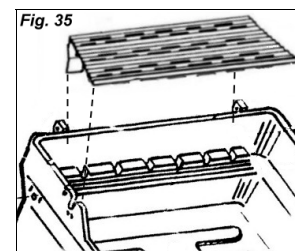

Fig. 35
3. The SearMagic Warming Rack drops onto the top edge of the grill head bottom. the warming rack bracket is positioned between the hinges of the grill head bottom inside back wall. (Fig. 35)